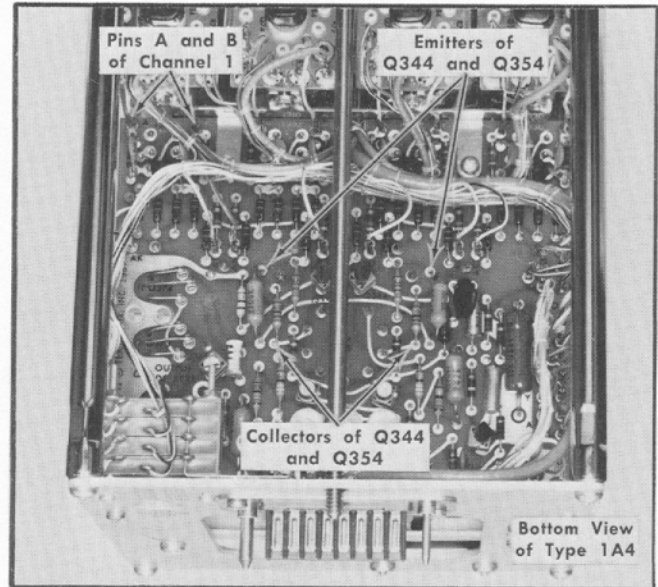
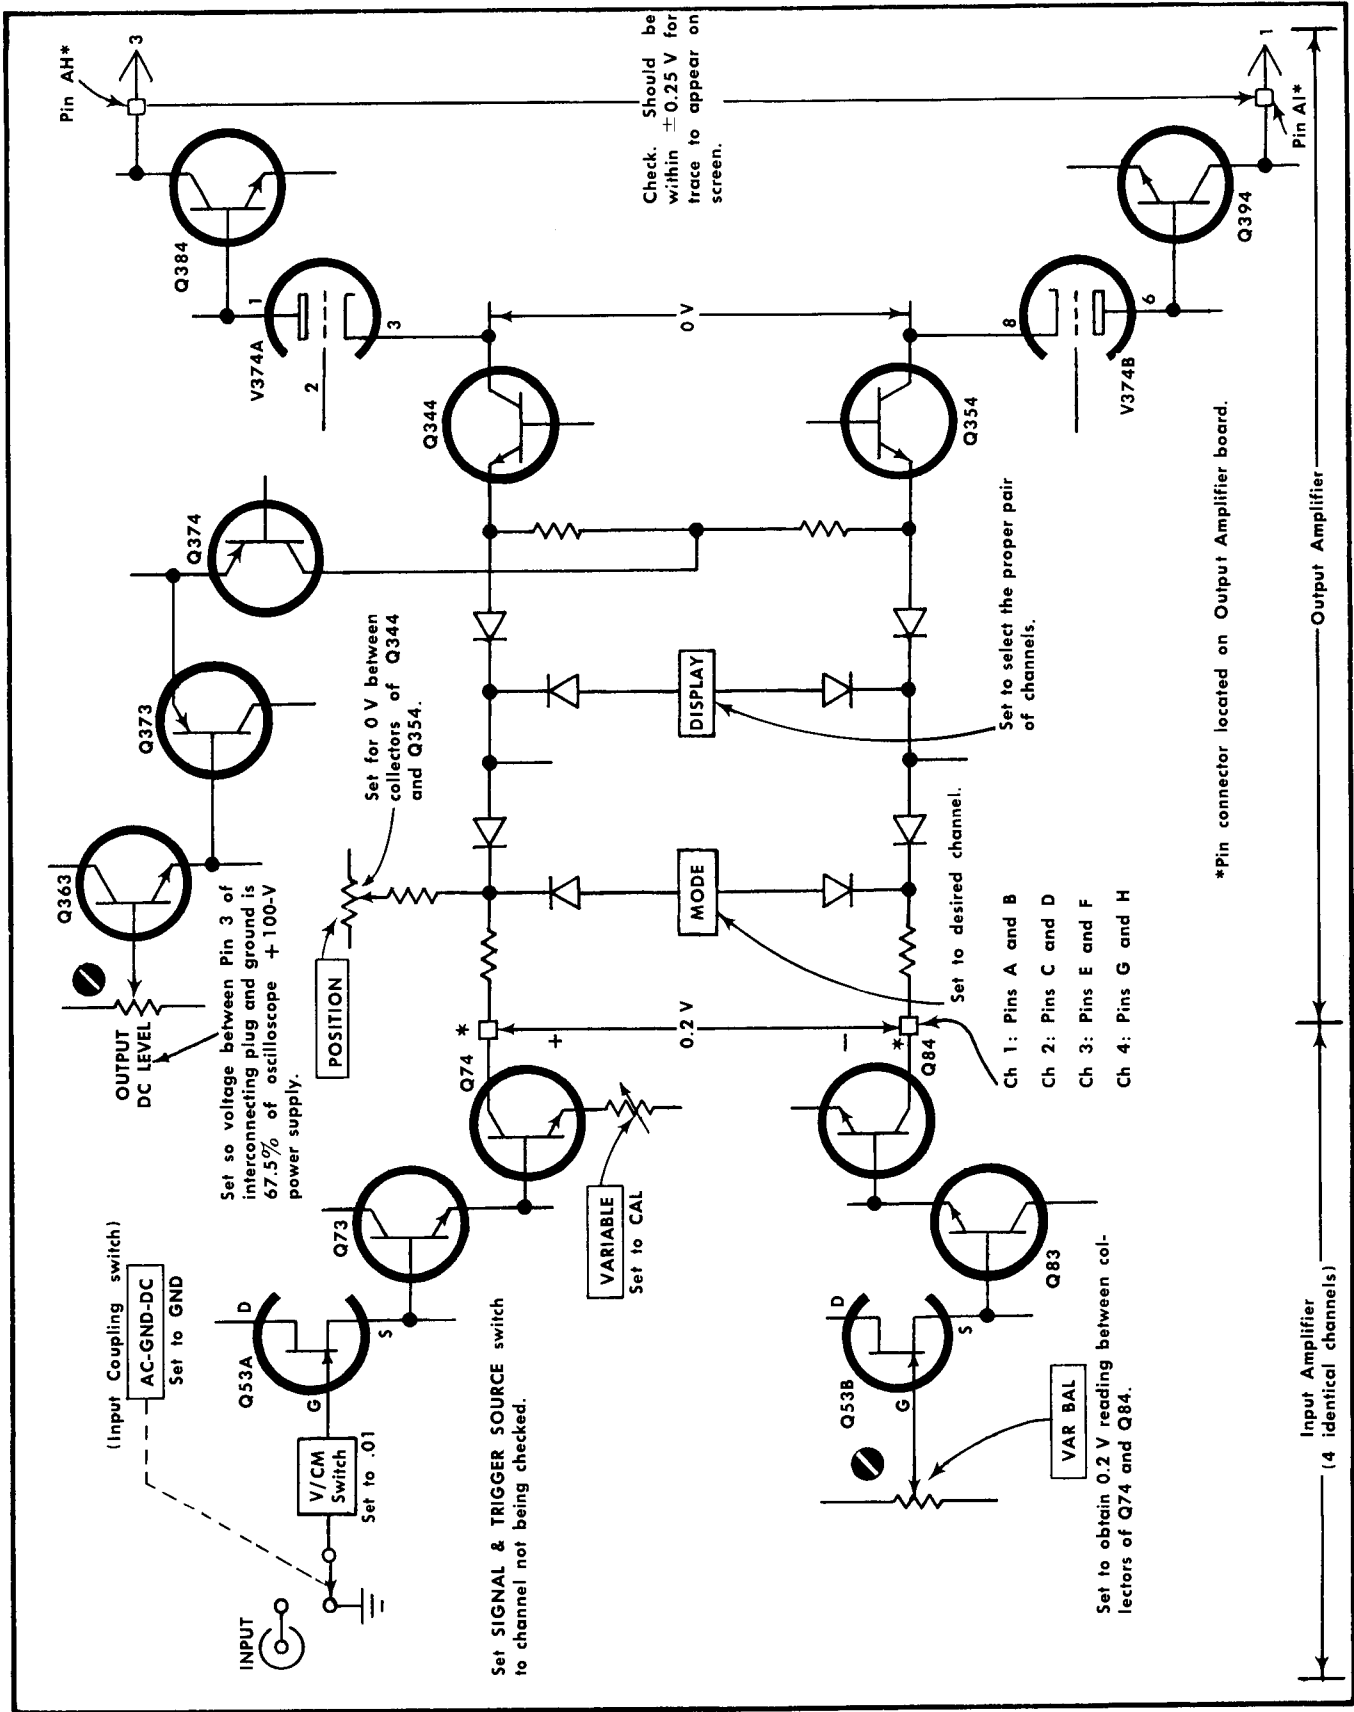

Fig. 5-3. Test point locations when isolating DC imbalance. Channel 1 is used as an example.
Fig. 5-4. Voltmeter method for isolating DC imbalance.
1. Short pins A and B together. This is the Channel 1 output circuit and the pins are located on the Output Amplifier board; see Fig. 5-3.
3. Short the emitters of Q344 and Q354 together. This can be accomplished at R345 and R355 as shown on Fig. 5-3.
To make the trace appear at or near the center of the CRT, the DC output voltage at pins 1 and 3 of the interconnecting plug must be essentially equal. To make the trace appear within the usable viewing area of the CRT, the DC voltage measured between pins 1 and 3 (or pins A1 and AH on the Output Amplifier board; see Fig. 5-4) must be within ± 0.25 V, assuming the Type 1A4 is used with an oscilloscope having a 6-cm high viewing area and the
The DC voltages at pins AI and AH of the interconnecting plug depend on the DC balance of each stage. Since all the signal-amplifier stages are DC coupled, any excessive imbalance condition existing anywhere between input and output of the Type 1A4 Output Amplifier or a channel Input Amplifier can unbalance the output and cause the trace to be deflected out of the viewing area. Fig. 5-4 illustrates how imbalance can be isolated by using a voltmeter to monitor the difference voltage between symmetrically opposite points in the push-pull circuit. To use the illustration, start from the input and work towards the output to find the area of imbalance. Refer to Fig. 5-3 to find Q344 and Q354 collector test point locations.